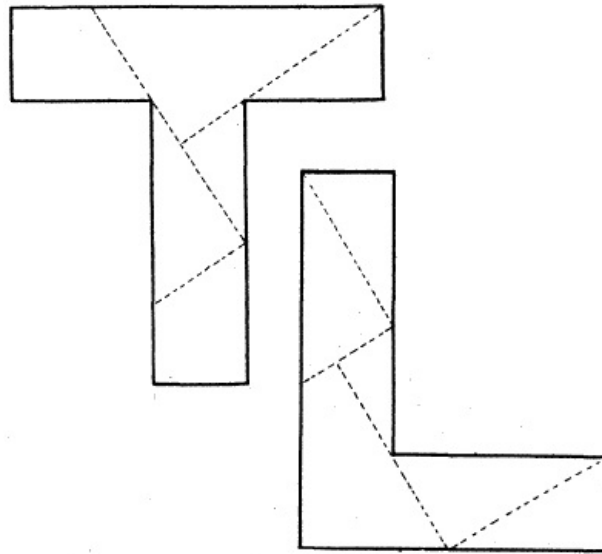

FIG. 56.
*Geometrical Puzzle* shown in Fig. 56. Each of these consists of a capital letter divided up by one or two straight lines into right-angled triangles and other geometrical shapes. While very simple to look at when completed, these little puzzles are by no means easy to solve when the odd pieces are given in a jumbled state. The capital letters should be drawn on a piece of cigar-box wood, and then carefully cut out with a fret saw, or, better still, with a tenon saw if you have one. If you cannot manage wood, then the puzzle can be done in stout cardboard and cut out with a sharp thin knife.